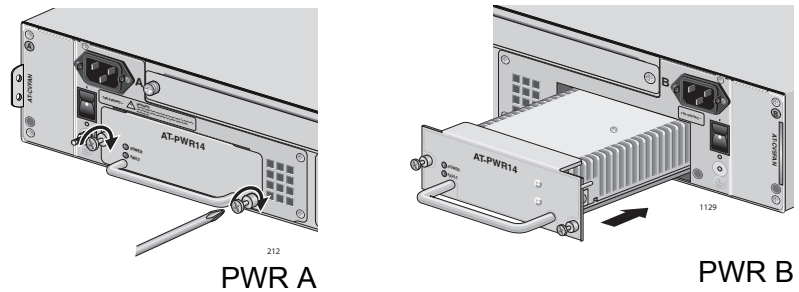

Figure 57. Securing the AT-PWR14 AC Power Supply
- Secure the AT-PWR14 AC power supply to the AT-CV5000 chassis by using a Phillips screwdriver to tighten the captive screws, as shown in Figure 57.